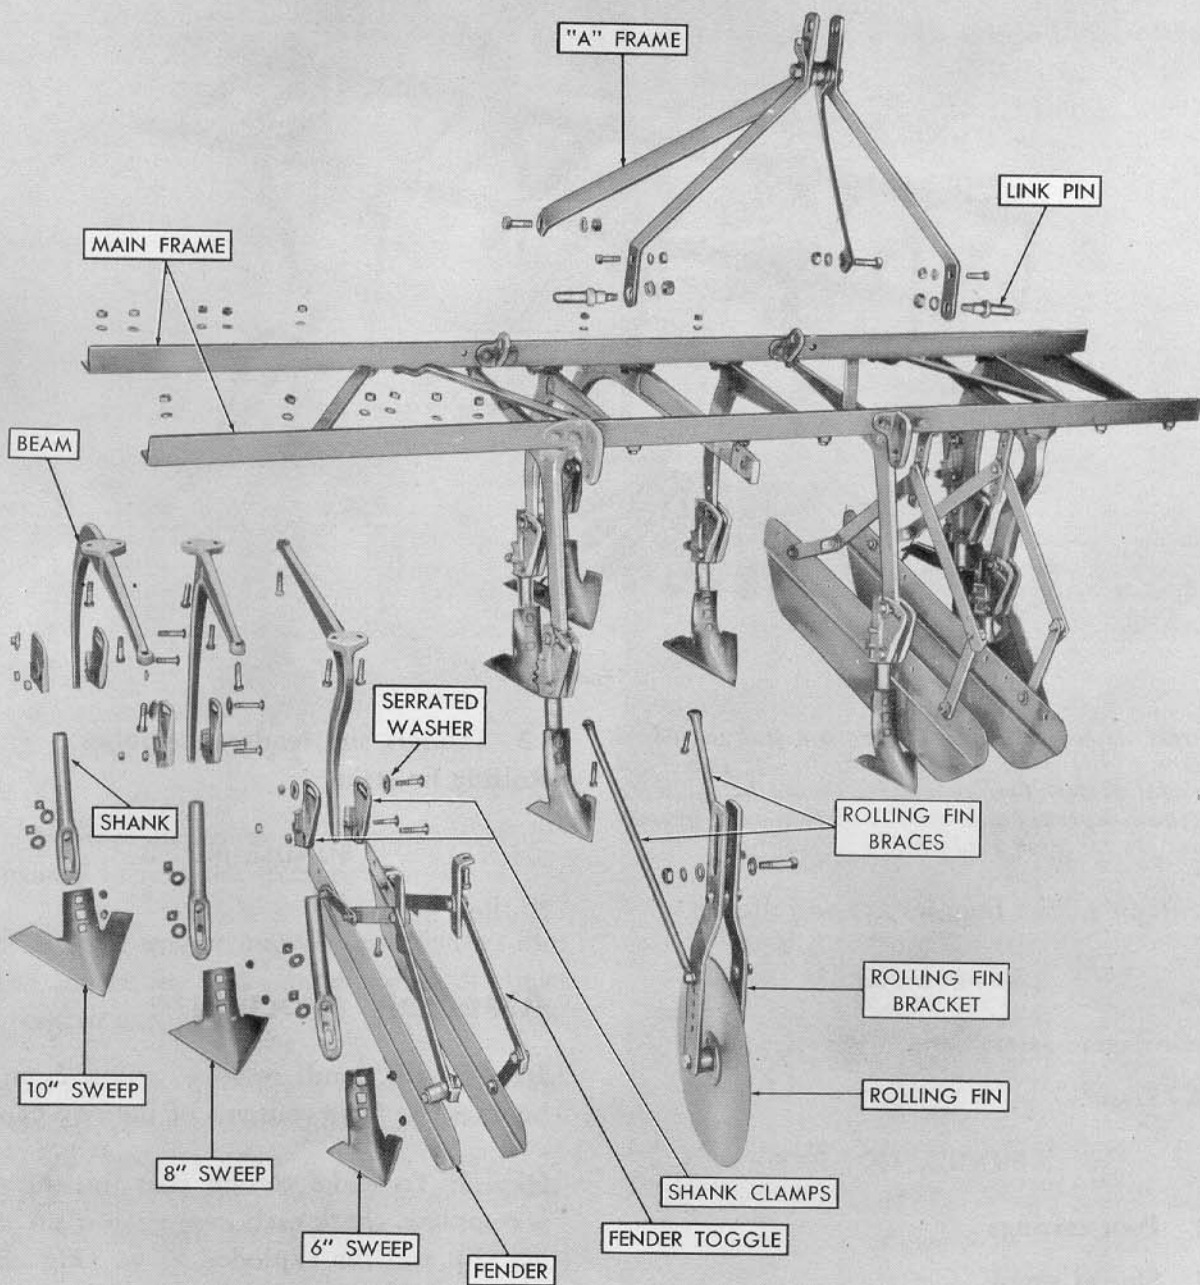

Figure 2
Step 2: To make certain that the shipment is complete, check each item against the packing slip and the exploded view. (Figure 2.)
Step 3: Attach the "A" frame to the main frame at the points shown in Figure 2, with the short arms of the "A" frame forward and the link pin clip on the right side.
Step 16: Assemble the fenders and attach to the main frame, as shown in Figure 2.